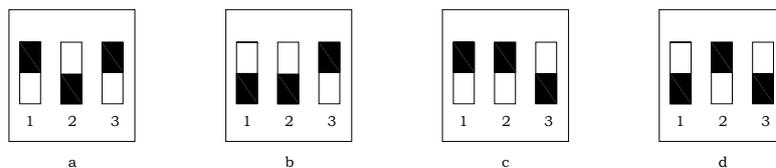

Figure 3.4.6 Red State Switch
3.4.6 Through the above adjustments engine still unable to stability, it needs to be adjusted Red State Switch now, figure 3.4.6 four cases (a: RSW-1、RSW-3 = ON、RSW-2 = OFF; b: RSW-1、RSW-2 = OFF、RSW-3 = ON; c: RSW-1、RSW-2 = ON、RSW-3 = OFF; d: RSW-1、RSW-3 = OFF、RSW-2 = ON). After every adjusting Red State Switch go on the 3.4.4.1 and 3.4.4.2 adjusting procedure again. If it is still unable to stability, should inspect engine and fuel pump for service condition. And then, contact with manufacturer.